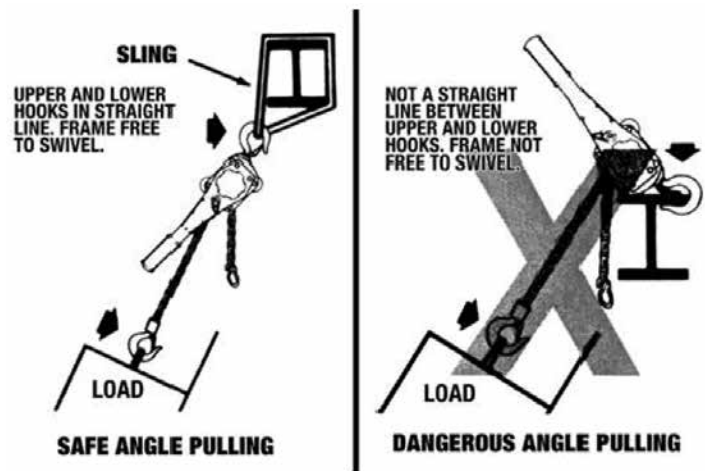

Figure 5: Pulling at an Angle
- Pull firmly on the stop grip until the brake locks from the force of the load (See Figure 5).
TO AVOID INJURY: Rig the unit in a straight line hook to hook and ensure the frame swivels freely (See Figure 5).